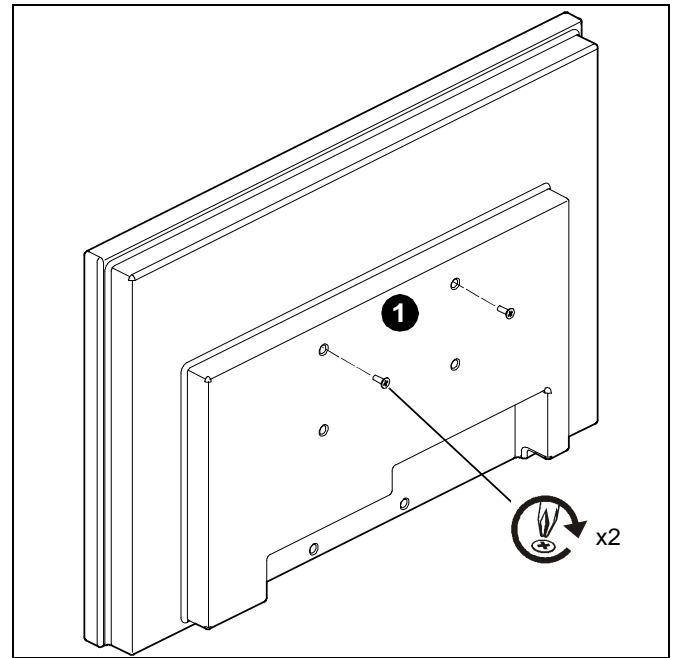

Figure 5
1. Start two M4 x 8mm Phillips pan head screws (included in hardware kit) into upper mounting holes in display back. (See Figure 5)